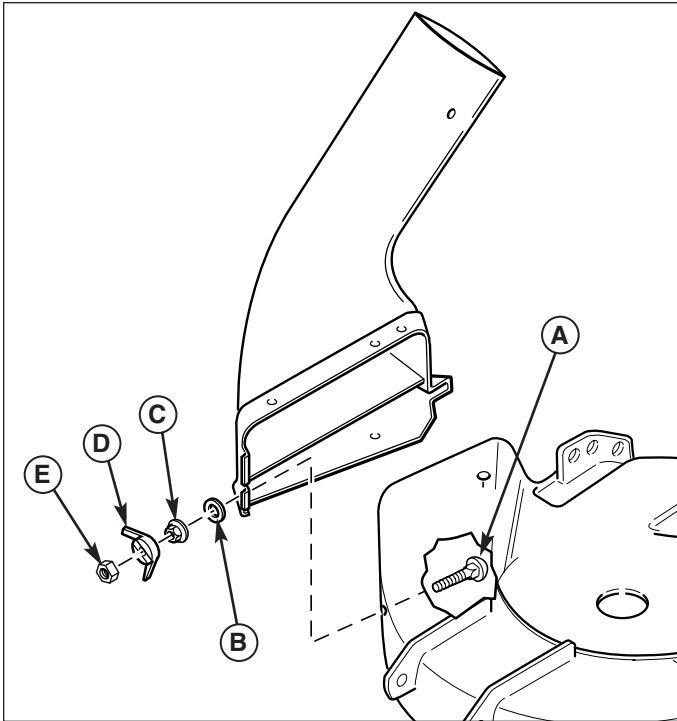

Figure 8.
3. Install 5/16-18 x 2-1/4 carriage bolt (A, figure 8) through front hole in mower deck along with cup (B), whiz flange nut (C), wing nut (D) and center lock nut (E). Nut (C) must be seated inside cup and center lock nut (E) should be flush with end of carriage bolt.